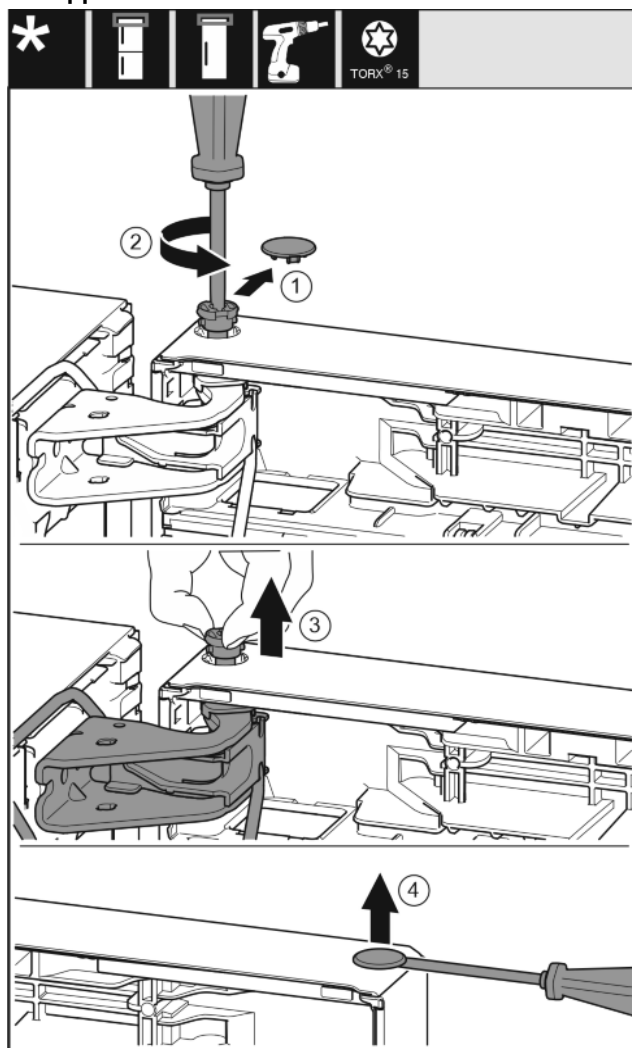

Fig. 18
- Carefully remove the protective cover. Fig. 18 (1)
- Undo the bolt a little with a T15 screwdriver. Fig. 18 (2)
- Hold the door and remove the bolts with your fingers. Fig. 18 (3)
- Carefully lift the plugs out of the door bearing bush with a slotted screwdriver and pull them out. Fig. 18 (4)